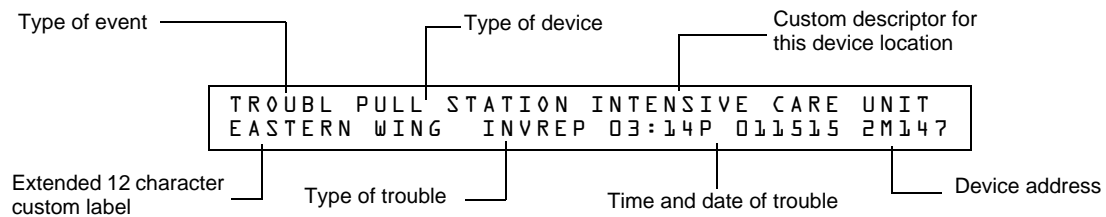

Figure 3.10 Sample Trouble Message
- Displays TROUBLE in the status banner on the LCD display as well as the type of trouble and information specific to the device, as shown in Figure 3.10 below.